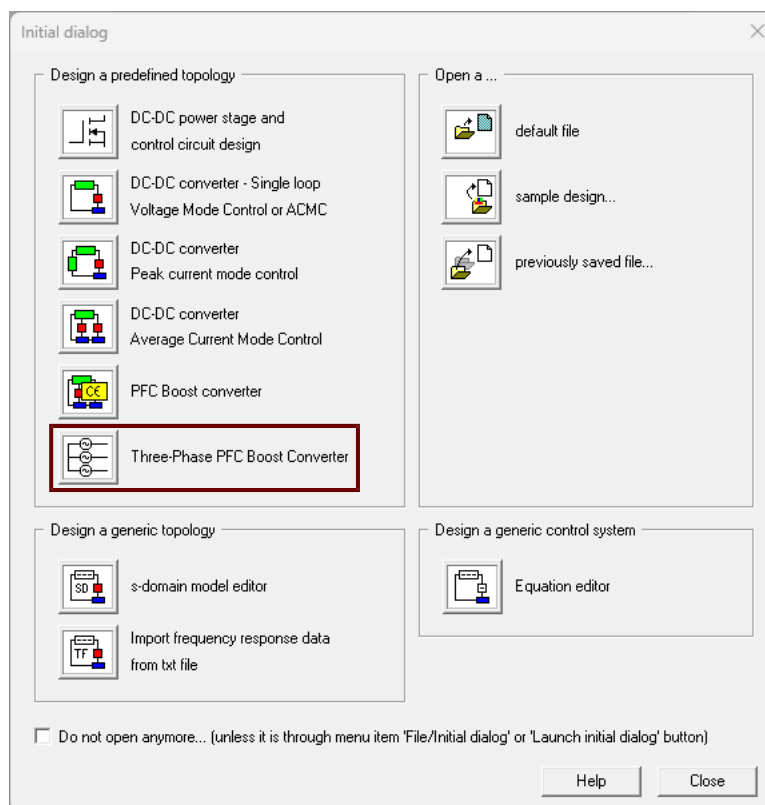

Figure 5: SmartCtrl initial window
2. To begin the design of a Three Phase PFC Boost converter, click on *Three-Phase PFC Boost converter*. See Figure 5.